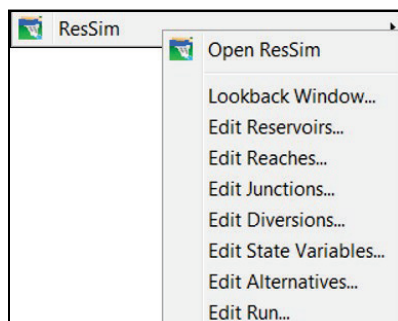

**Figure L.27** HEC-HMS Main Window – Basin Model Tab – Simulation Runs
- The HEC-HMS main window will open with the **Compute** tab displayed (Figure L.27). This tab allows the user to edit parameters that have been defined for an HMS simulation run. For further detail on this editor, reference the HEC-HMS User's Manual.